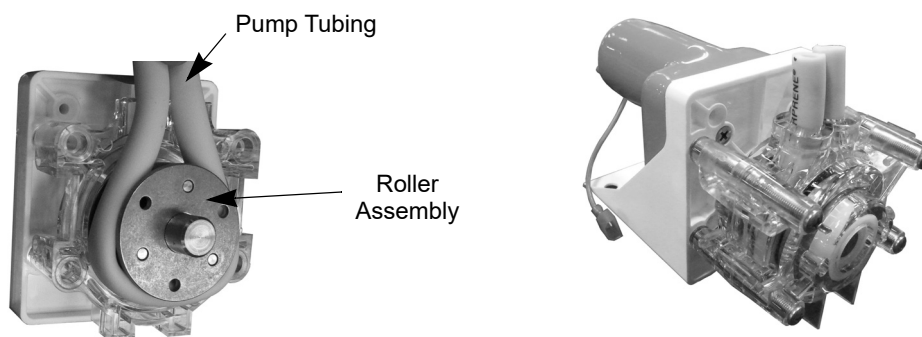

Figure 24. Pump Assembly
3. Remove **ONLY** the rear pump body half to reveal the pump tubing and rollers (See Figure 24).